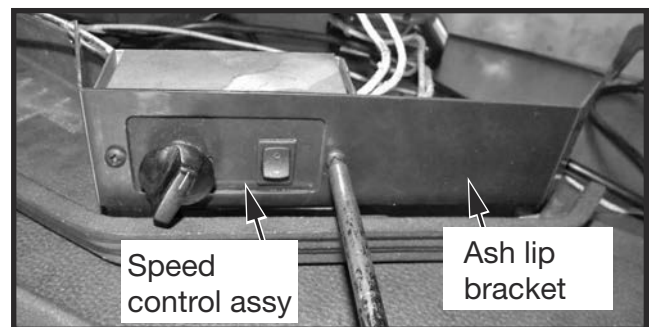

Figure 26: Relocating speed control assy and bracket.
7. Remove the control assembly from the ashlip bracket on the right hand side. Flip it over and reattach on the left hand side of the ashlip (Figure 26). Use the upper screw holes for best alignment.